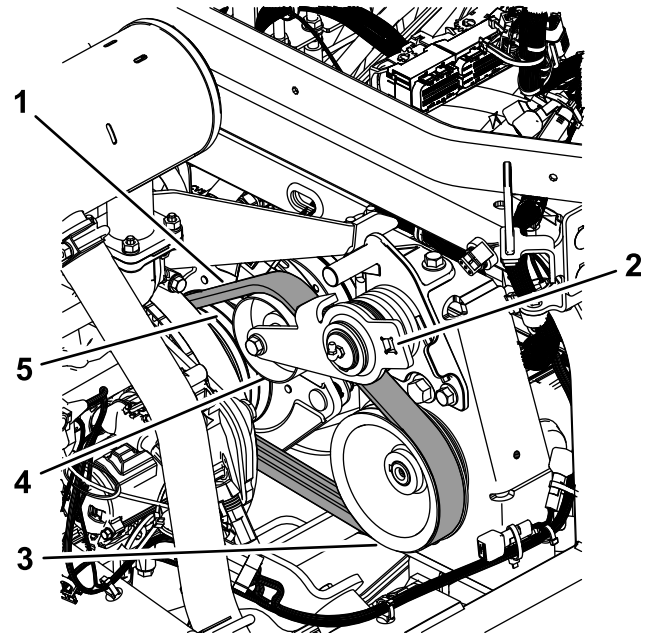

Figure 73
3. Route the belt on the engine pulley, idler pulley, and pump pulley (Figure 73).